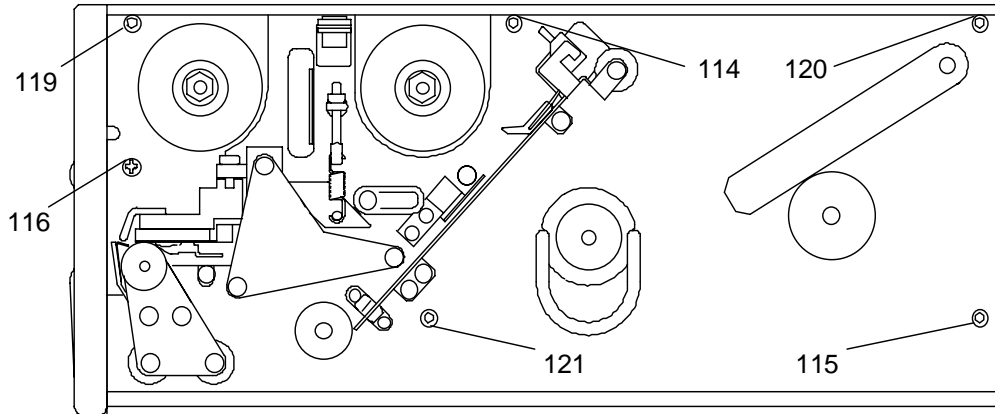

FIGURE 19
- svitare le 6 viti laterali (fig.19,#114,115,116, 119,120,121)